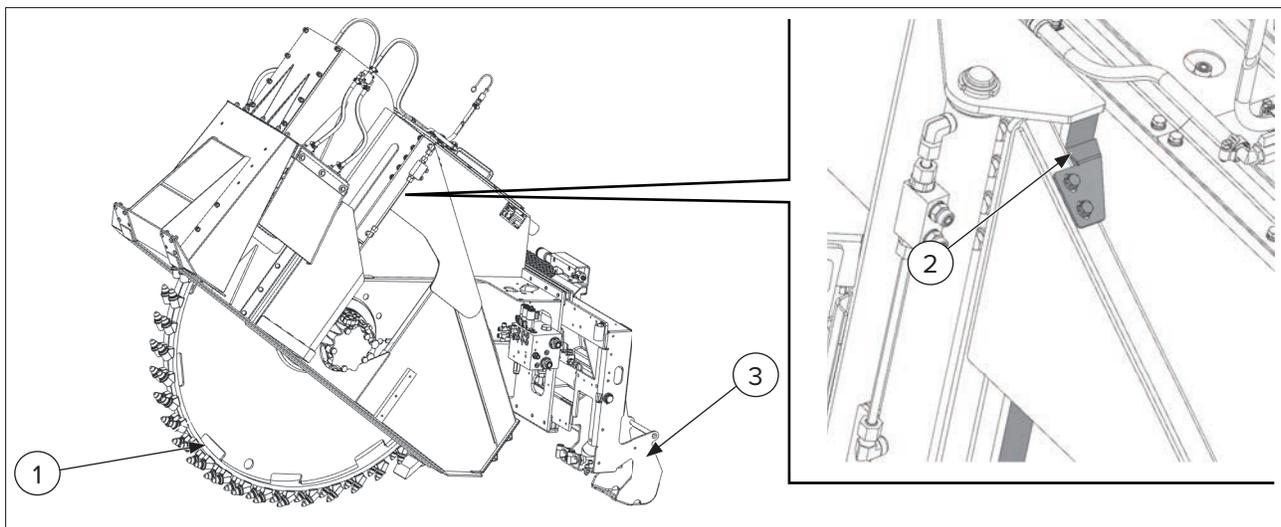

Figure 6
- Adjust the depth of the cutting wheel [Figure 6, Item 1] by bringing the excavation depth indicator [Item 2] to maximum height.